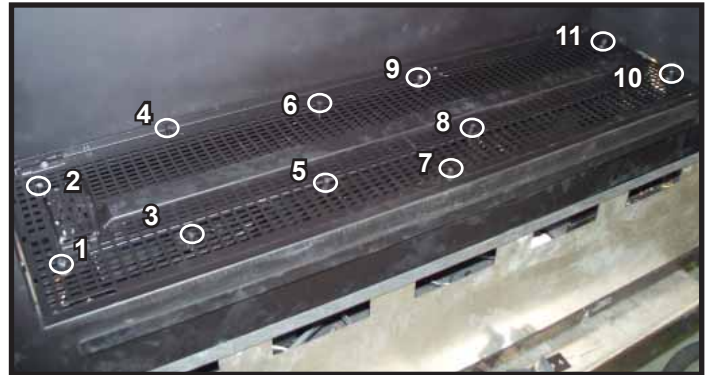

Figure 1.
8. Install eleven shoulder screws into pilot holes in media tray. Locations are indicated in Figure 1.